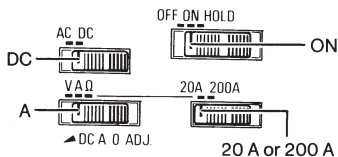
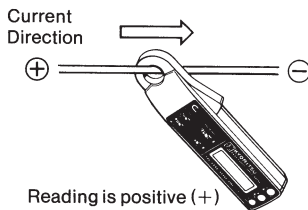

Fig. 1
Fig. 2
- (1) Set all selector switches as indicated in Fig. 1.
- (2) Before taking a DC current measurement, zero adjust the display by turning DC A Zero Adj. knob (3). Make this zero adjustment before every measurement to ensure an accurate reading. Changing a range could cause the instrument to be off zero. Therefore, it is also necessary to zero adjust after changing the range.
- (3) Press the jaw trigger to open the transformer jaws and clamp onto one conductor only. Take the reading as indicated on the display.
- (4) When DC current flows from the upside to the underside of the instrument as shown in Fig. 2, the polarity of the reading is positive (+).